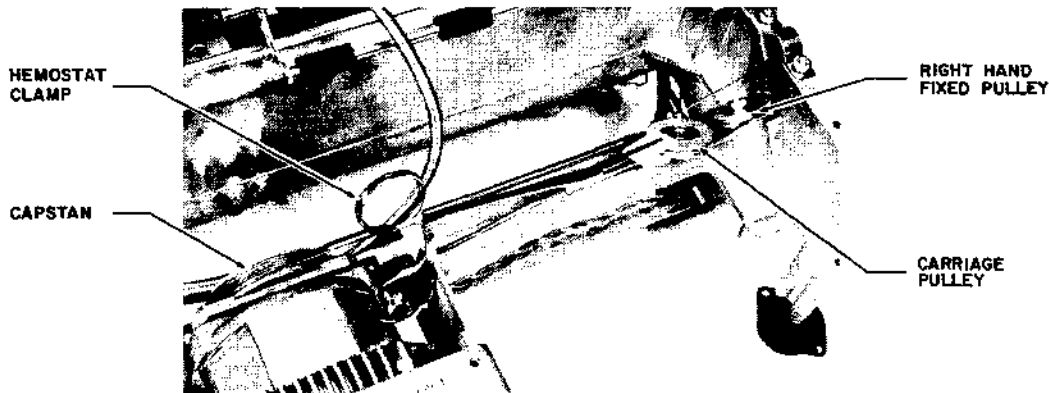

Figure 5-36 RIGHT-HAND CARRIAGE DRIVE CABLE INSTALLATION
Refer to Figure 5-36.
- # Protect the carriage pulley with heavy paper, and grasp it with the hemostat clamp as shown in Figure 5-36. Hook the hemostat clamp's lower finger ring over the main frame servo motor shield as shown, where the motor's magnetism will help to hold it in position. Rotate the capstan counterclockwise to keep a slight tension on the cable, and to locate the notch on the capstan's inside rim (toward you) as near the top (as you view it) as possible.